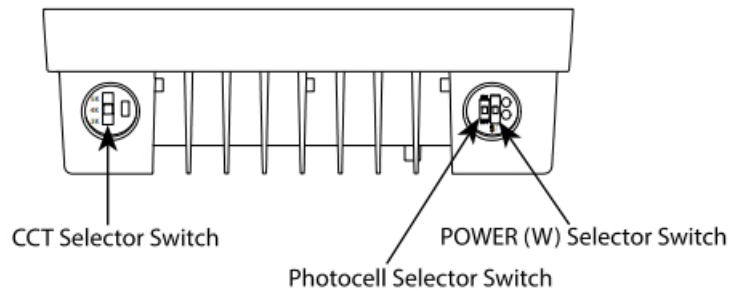

Fig: 6
2. Locate the Selector Switches on the fixture (Fig. 6).
3. Select Power (W) and Color Temperature (CCT) by sliding the respective switch to the desired value.